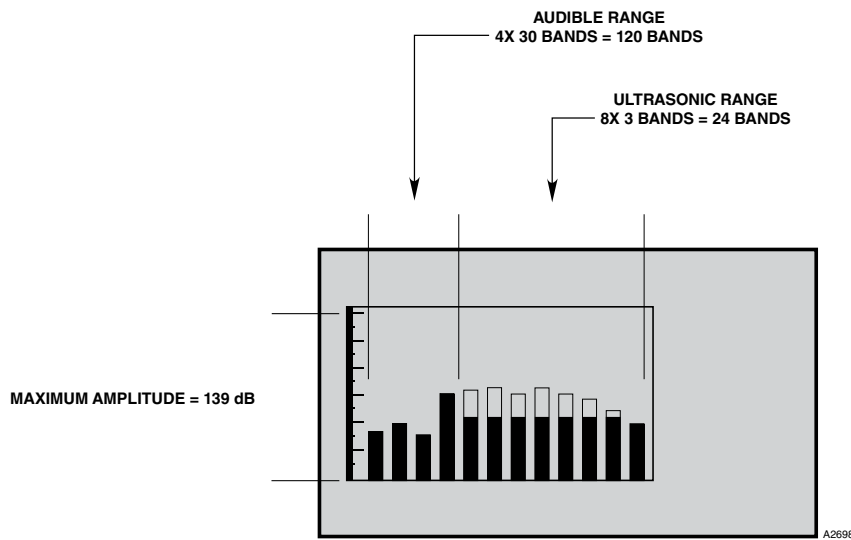

Figure 6-2—UD10-DCU Display Uses 12 Bands to Represent the FlexSonic Acoustic Detector's 144 Bands
- The first 4 bands summarize the audible range (20 Hz - 20 kHz). Each of the first 4 bands represents an aggregate of 30 bands from the spectrum, for a total of 120 bands. See Figure 6-2.
The alarm threshold is summarized in 12 bands using the method described above. The portion of the band that exceeds the alarm threshold is inverted (displayed in white) as shown in Figure 6-2.